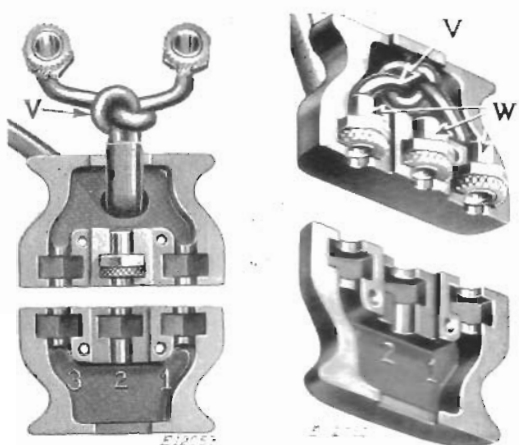
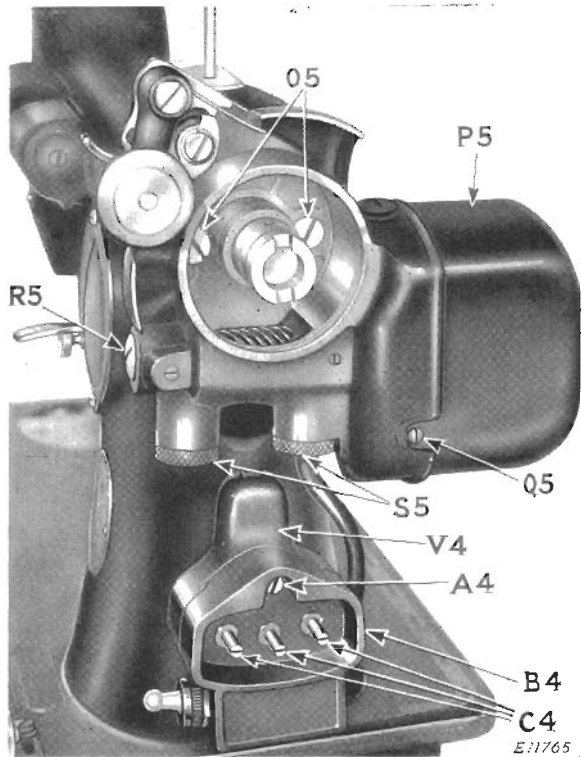
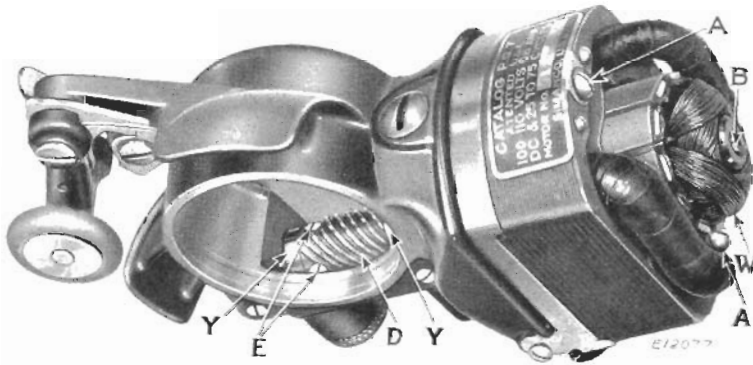
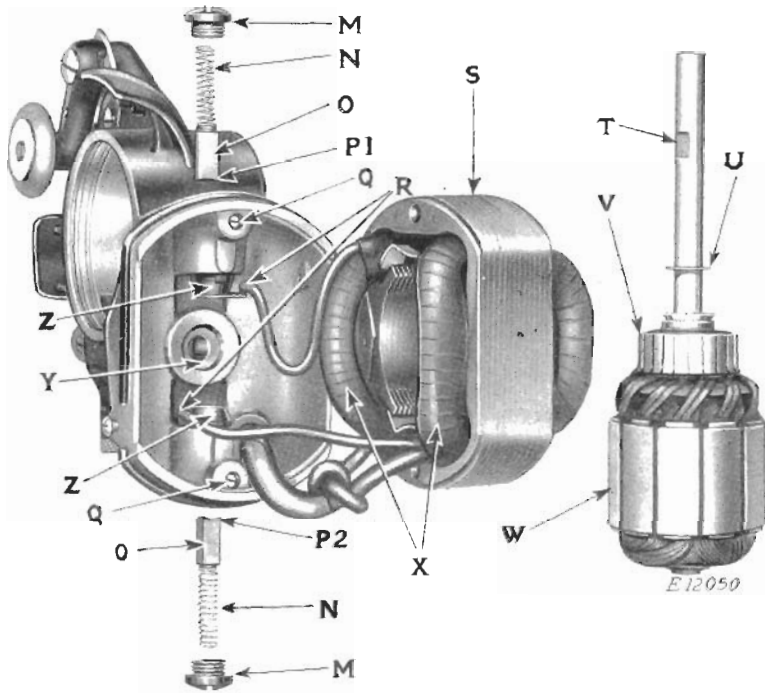

FIG. 13
FIG. 15. MACHINE 201-2 AND MOTOR
FIG. 16. MOTOR WITH COVER REMOVED
FIG. 17. MOTOR DISASSEMBLED
Inspect the soldered connections (R, Fig. 17) at the brush tubes. See "Replace Field Core with Coils," page 23.
Three-Pin Terminal Plug, shown in Figs. 13 and 14, has three sleeves (W, Fig. 14) which are engaged by the three pins (C4, Fig. 15) when the plug is pushed into the three-pin terminal block (B4, Fig. 15).
Note that the two wires are knotted together as shown by (V, Figs. 13 and 14). This is to prevent strain or breakage in case the plug is pulled from the three-pin terminal by grasping the wires instead of the plug. Therefore, the knot is placed so that it, instead of the connections, bears the strain when the plug is drawn out of the terminal.
Take out screw (A4, Fig. 15) and remove the three-pin terminal (B4) from the terminal bracket (V4).
Remove Motor Cover. Loosen the two screws, one of which is shown at (Q5, Fig. 15) and remove motor cover (P5, Fig. 15) by pulling and, at the same time, rocking it up and down slightly, being careful to prevent inside of cover damaging the field coils.
Remove Brushes—Machine 201-2. Take out screw caps (M, Fig. 17). When the screw caps are removed, the brush springs may protrude from the screw holes, and brushes can then be easily withdrawn. However, should difficulty be experienced in removing the brushes, this can be done conveniently after removal of the armature in accordance with "Remove Armature" following. It is advisable to mark the brushes at (P1 and P2, Fig. 17) to make sure that they will be replaced in the same relative position as before removal.
screws (E, Fig. 16) in the spiral gear (D, Fig. 16) so that the armature shaft can be withdrawn from its bearings. Remove the armature (W, Fig. 16).
If wiring is not damaged, clean commutator (V, Fig. 17) with a dry, clean cloth before assembling motor. If it is impossible to get the commutator bright by this means, use an ordinary rubber eraser. **Never use anything else on a small motor commutator.**
Remove the Field Core with Coils—Machine 201-2. Loosen the two screws (A, Fig. 16) and remove the field core (S, Fig. 17) from the commutator end cover which, in this case, is part of the motor frame. The removal of the field core must be done carefully to prevent damage to the field coil insulation, and to prevent strain at the soldered brush tube connections (R, Fig. 17).
Clean Brushes and Brush Tubes—Machine 201-2. Thoroughly clean the carbon brushes (O, Fig. 17), inner walls of brush tubes and inside of end covers, with a dry, clean cloth.
Inspect Wire Connections to Brush Tubes—Machine 201-2. Examine both field wire connections (R, Fig. 17) at the brush tubes. If broken, these connections should be securely soldered to the lugs of the brush tubes. Any loose strands of wire should be cut off.
Remove and Replace Brush Tubes—Machine 201-2. After the brushes and brush tubes have been cleaned, the brushes should slide freely in the brush tubes. If they do not, the brush tubes should be replaced by new ones. The new brush tubes must be replaced in the same manner as the old tubes, viz., firmly positioned in the insulating bushings (Z, Fig. 17), and with the field leads properly soldered to the lugs of the new tubes, as shown by (R, Fig. 17).
Remove and Replace Insulating Bushings—Machine 201-2. If the threads in the insulating bushings (Z, Fig. 17) and on screw caps (M, Fig. 17) become stripped, these parts should be replaced by new ones. When these bushings require replacement, the brush tubes also should be replaced with new ones. Do not attempt to use the old brush tubes in the new bushings. Loosen the two screws at (Q, Fig. 17) to release the bushings (Z, Fig. 17). When the new bushings are in place, tighten the screws (Q, Fig. 17).
Replace the Field Core with Coils. After the insulating bushings are replaced, the field coil wires properly soldered to the brush tubes as shown at (R, Fig. 17) and brush tubes in place in insulating bushings (Z, Fig. 17), put field core (S, Fig. 17) in place on commutator end cover, being careful not to damage field coil insulation. When the field core is properly seated on commutator end cover, insert and tighten screws (A, Fig. 16).
When the armature was removed, as instructed on page 22, the spring-pressured grease wick for each of the two bearings (Y) projected into the shaft bearings. Therefore, before replacing the armature and shaft, remove the two grease wicks in order that armature shaft may be inserted in its bearings without damage to the wicks. To do this, remove cap screws (S5, Fig. 15) and, using a small screw driver, carefully remove the grease wick spring retainer, together with grease wick spring and grease wick from each grease cup.
Put the spiral gear in position between the two bronze shaft bearings (Y, Fig. 16), having the two set screws (E, Fig. 16) toward the cap screw (R5, Fig. 15) in order that one of the two screws (E) can engage the "flat" (T) on the armature shaft. Insert armature (W) so that the fibre washer (U) is against the first of the two shaft bearings (Y, Fig. 17).
When armature shaft is in place in its bearings and through spiral gear (D, Fig. 16), the "flat" (T), against which one of the two set screws (E, Fig. 16) is to be tightened, is covered. Its position is, however, indicated by the "flat" at (B, Fig. 16) at the cover end of the shaft. Be sure that one of the two screws (E, Fig. 16) engages the "flat" (T), then tighten both screws (E).
Replace the grease wicks, making sure that the inner ends of the wicks are against the armature shaft. Then put the grease wick spring retainers in place in the grease cups, having the tab, at the outer end of each retainer, over the outer end of the grease wick spring. Fill the grease cups and replace cap screws (S5, Fig. 15).
Replace Brushes—Machine 201-2. When inserting the brushes in the brush tubes, make sure that their concave ends (P1 and P2, Fig. 17) correspond with the convex surface of the commutator, and that they are replaced in the same relative position as before removal. See "Remove Brushes," page 22. Hold end of brush spring and tap the brush against the commutator until contact is clearly heard. Then insert and tighten the two screw caps (M, Fig. 17), being careful not to strip the threads.
Place the motor frame, with motor, on its seat on the machine arm, and insert and tighten the two screws (O5, Fig. 15). Fasten the three-pin terminal (B4) to its bracket (V4) by means of the screw (A4).
Remove the two cap screws (S5, Fig. 15) from the two grease cups and clean out the interiors of the cups. Insert the tip of the motor lubricant tube into the grease cups and squeeze about a quarter of the tube of lubricant into each grease cup, then replace and tighten the cap screws (S5, Fig. 15).
See Instructions and Figs. 13 and 14, page 20.